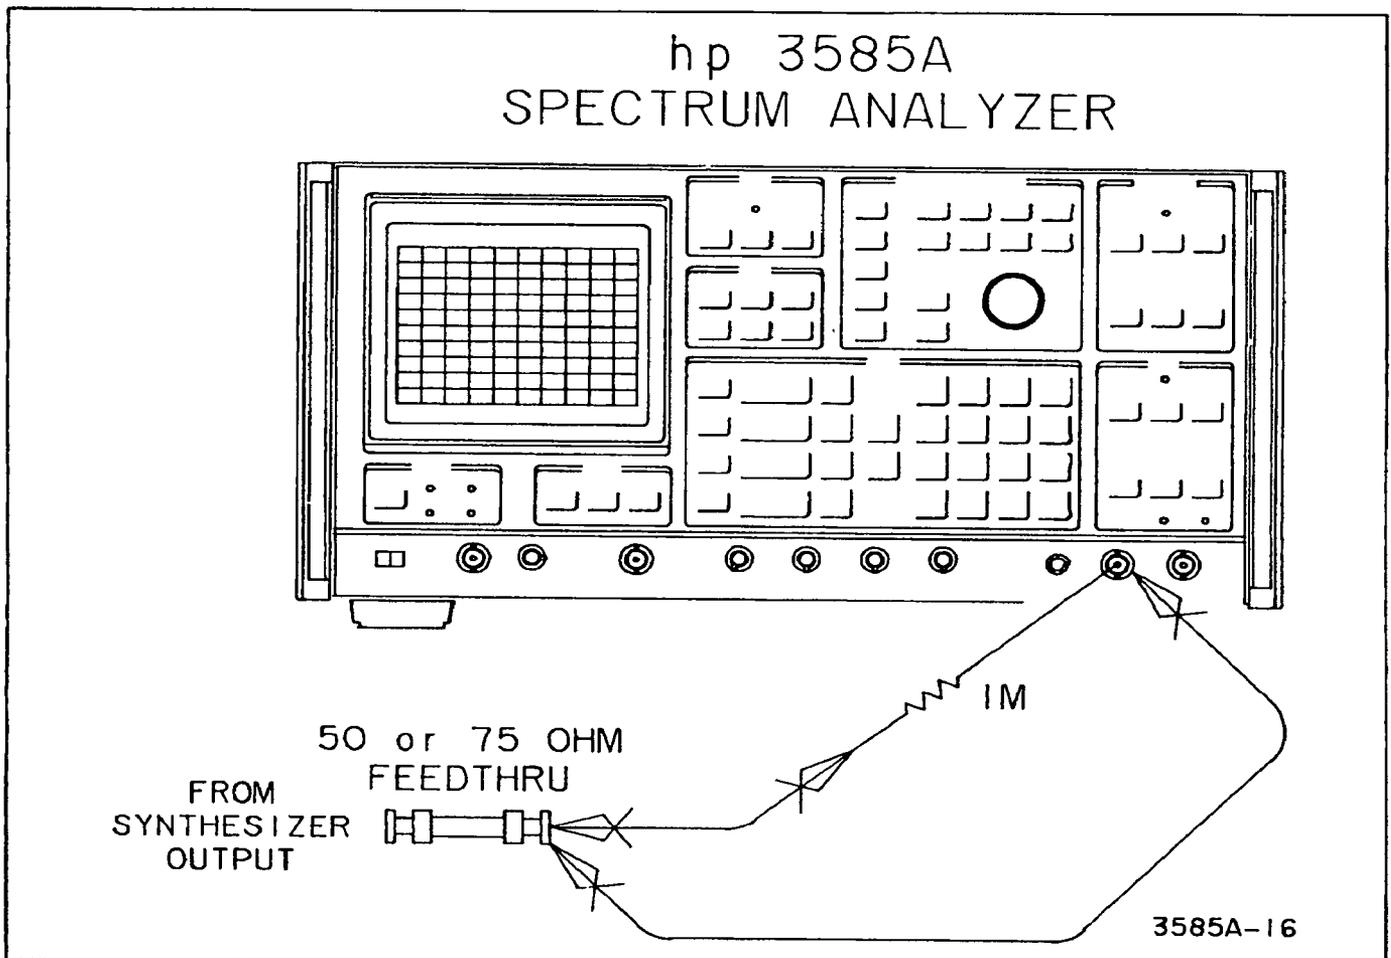

Figure 4-2. 1 M Ohm Input Impedance Test.
- e. Using short clip leads, insert the 1 M $\Omega$  resistor between the output of the termination and the 3585A 1 M $\Omega$  input as shown in Figure 4-2.